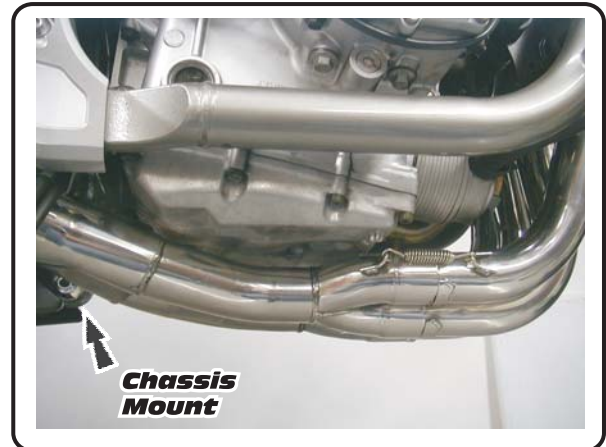

Fig. 1
- 2 Remove stock exhaust system. First remove stock muffler and tailpipe, use a soft cloth to cushion center stand contact with shifter lever. Remove nuts from head pipes. Remove chassis bolt from frame bracket (note: for ease of bolt removal allow center stand to retract as far as possible)(See Fig.1).
- 5 Install stock chassis mount bolt with supplied nut. (For ease of installation allow center stand to retract as high as possible) (See Fig.1). Torque bolt to 2.5kg-m (18.2lb-ft).